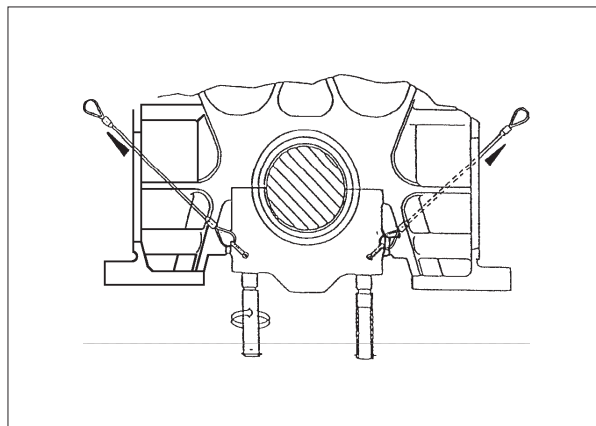

Fig 2. Mounting of Wire Straps.
- 6) Fit the eye screws, diagonally, in the threaded holes in the main bearing cap, see fig 2.